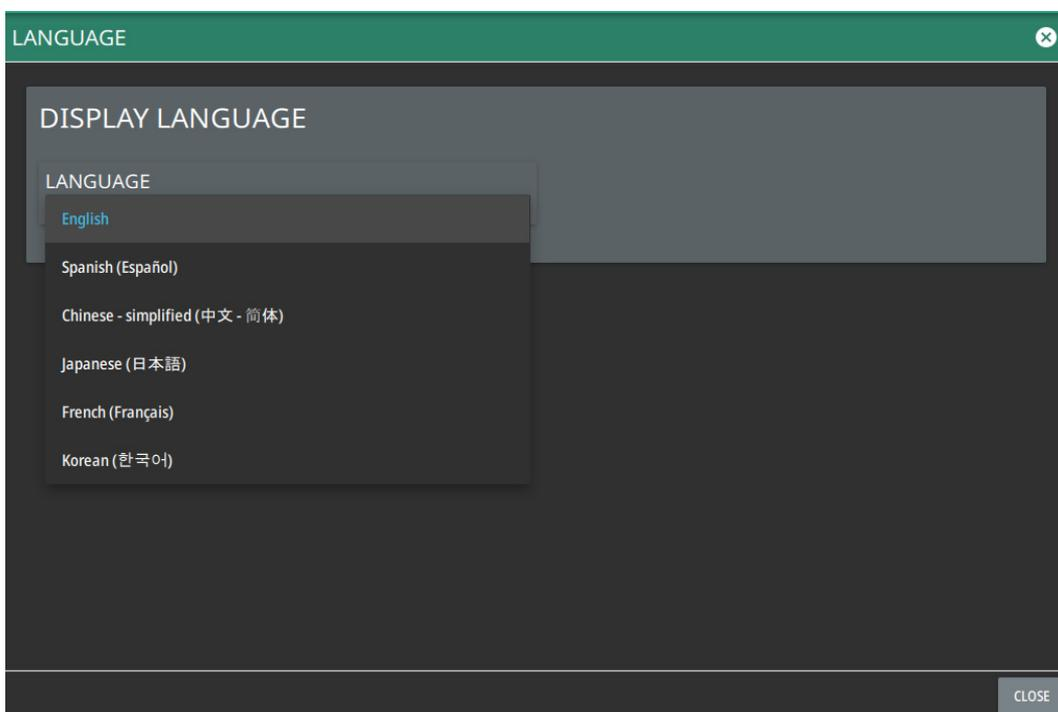

Figure 2-36. Language Settings
3. Select the LANGUAGE drop-down menu and select a desired display language as shown in the Figure 2-36.